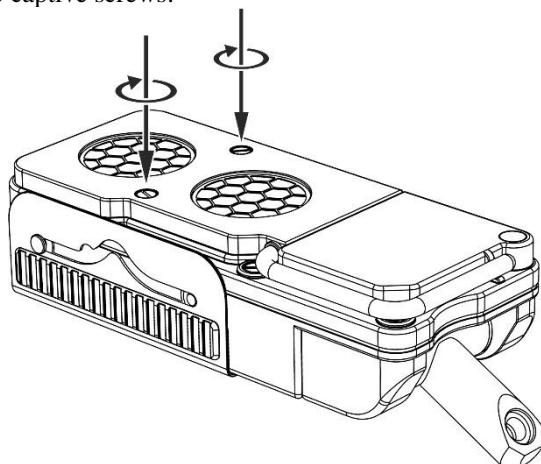

Figure 3.6 – Final clamping of the protection cover to ABG probe's body
- tighten the two captive screws (Figure 3.6).